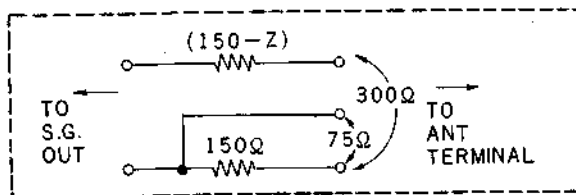

Fig. 3-1-1 Dummy Antenna
- (2) Dummy Antenna See Fig. 3-1-1.
- (3) AC VTVM
- (4) Alignment Tools
- (1) Standard FM Signal Generator (SSG).
- (2) MPX Stereo Signal Generator
- (3) Audio Oscillator
- (4) Distortion Meter with AC VTVM
- (5) Dummy Antenna (See Fig. 3-1-1).
- (6) Oscilloscope
- (7) Alignment Tools